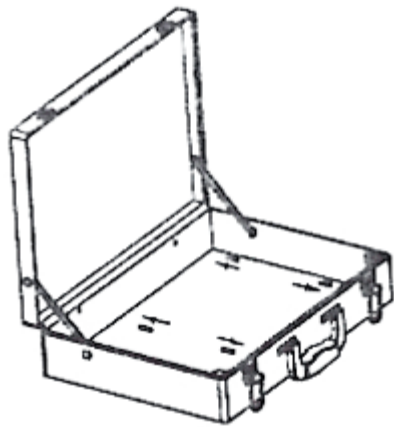

Fig. 1
- b) There are 4 holes marked with ↑ in the lower half of the case, 2 in the front and 2 in the rear. Insert the Support Pins into these holes (Fig. 1). They will become the supports for the diffuser plate.